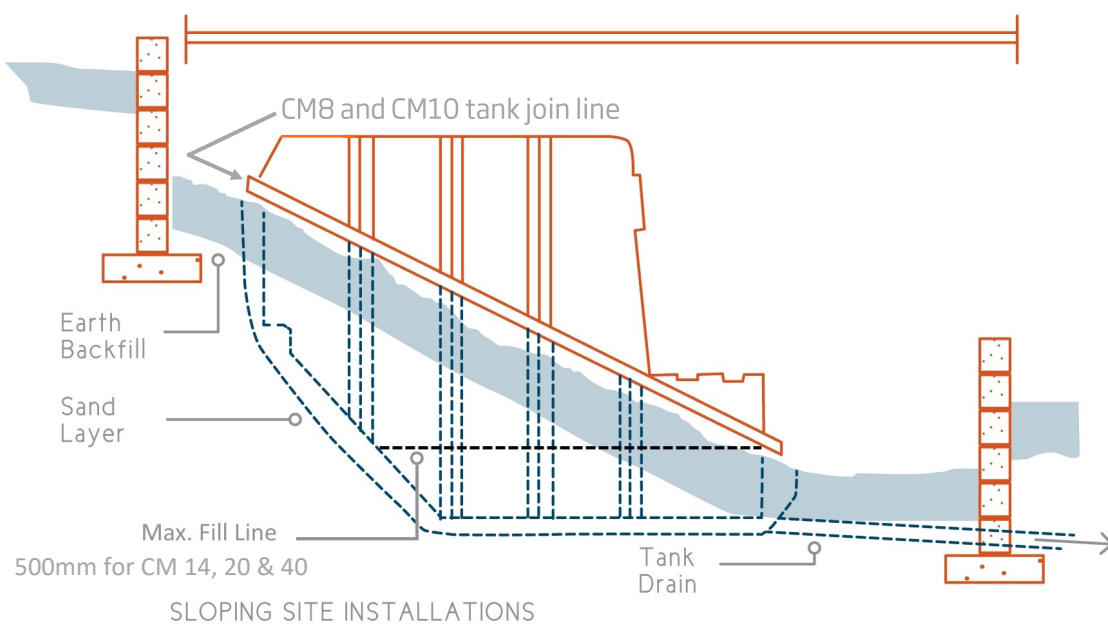

FIGURE 2
7.1 EARTH SUPPORT [SEE FIGURE 2]
In order to ensure stability of the surrounding earth, a retaining wall may be required. All back fill around the tank should be rock free. When the tank is partially dug into the ground, take steps to ensure that heavy rain will not cause a build up of surface water in the area around the tank. Ensure the tank cannot slide forward by mounding sand or gravel around the front of the tank as in Figure 2 above. Note the position of the Liquid Drain and The Drain Pipe trench has been marked.